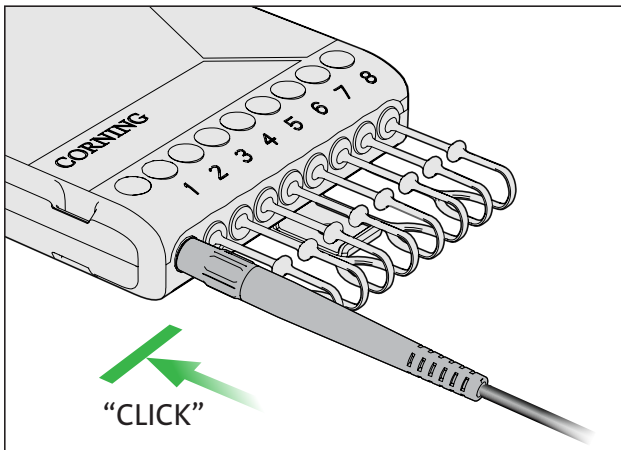

Figure 6
- 1.3 It is very important that the connectors are known to be clean or cleaned prior to connection. A dirty connector will cause attenuation and may damage the connector end-face permanently. Corning Optical Communications factory-assembled multifiber Pushlok connectors have tamper-proof factory seals which verify that the connectors have been cleaned and tested prior to shipping (see Step 3 and Figure 6).
**Step 6:** Insert the drop connector into the terminal port, until the button clicks and the latch is engaged. (Figure 6)